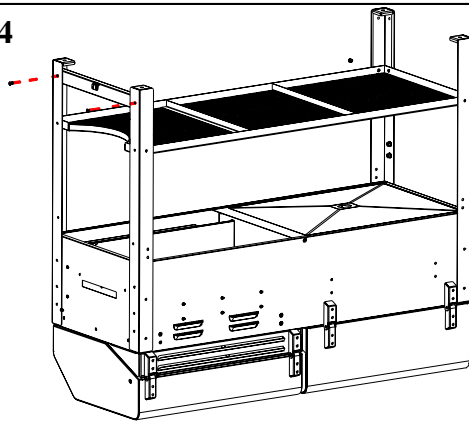

Fig. 4
*Locate:* Retaining Support and (2) M6x15 bolts.
Attach retaining support using (2) M6x15 bolts as figure 4.
Insert the threaded end of the caster wheel into the bottom of each leg as shown in Figure 4 and fully tighten with the wrench provided in the hardware pack.